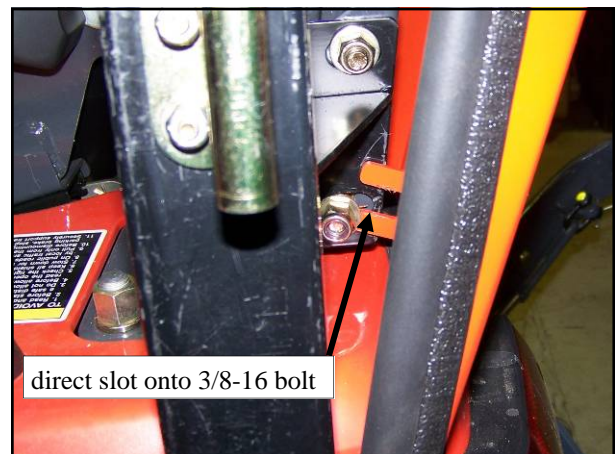

Fig. 13.1 (view from rear of left side)
**13.1** Install the lower rear panel so that the 3/8-16 bolts slide into the open-ended slot on the welded mounting tab, sandwiched between the steel washer and ROPS Mount (lower). See figure 13.1. Push the panel forward as far as it will go and tighten both lower and upper 3/8-16 bolts. See fig. 13.1.1.